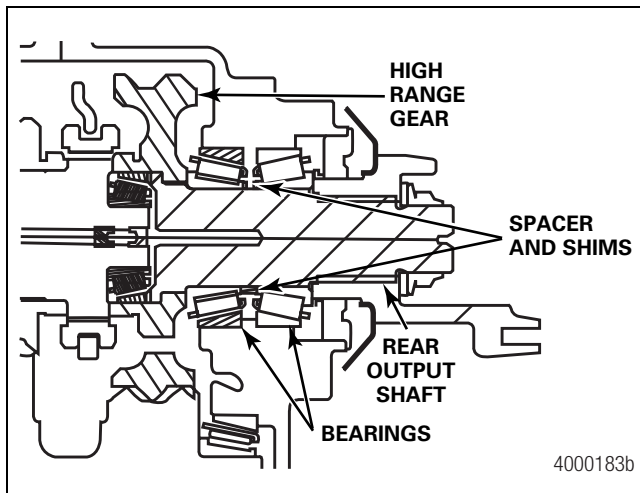

Figure 6.7
1. If the rear output shaft and cover assembly has been disassembled, install the rear output shaft, bearing cones, spacer and shims, rear oil seal and yoke into the rear cover. Temporarily tighten the yoke nut to 200 lb-ft (271 N•m). Place the rear cover on the bench to measure bearing end play. Figure 6.7.